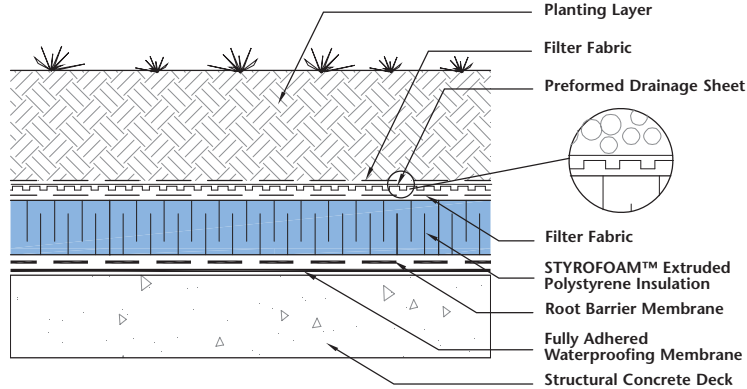

Figure 6
- 3/8" to 1/2" (12 mm to 12.7 mm) dimpled, preformed plastic drainage sheet. Where possible, specify a product that minimizes contact with the insulation (e.g., place dimpled side down) (Figure 6)